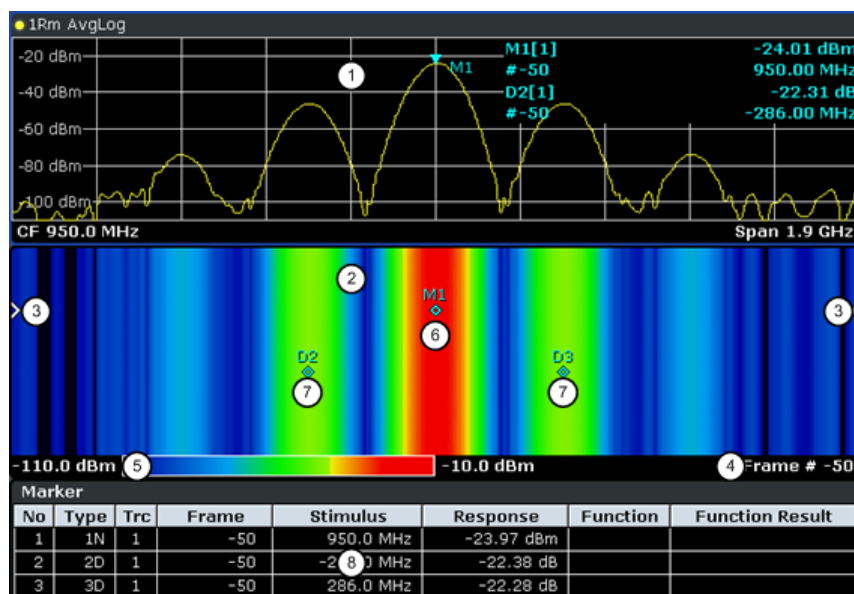

Fig. 5-20: Screen layout of the spectrogram result display
- Spectrum Analyzer result display (1 in figure 5-20)